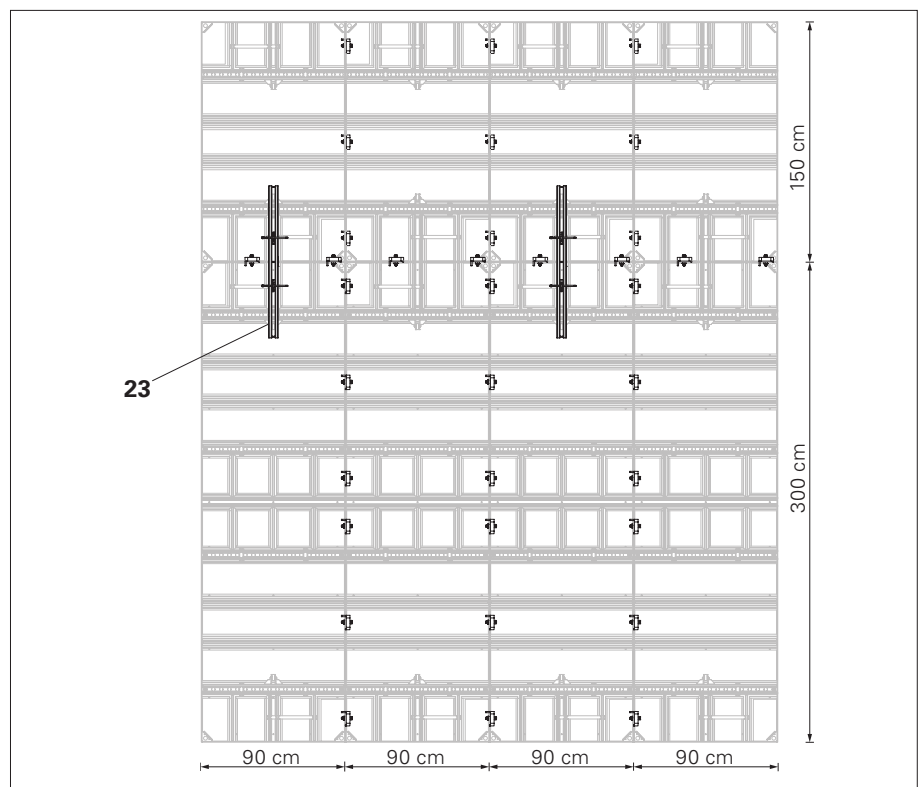

Fig. C6.04
Shown Height = 450 cm (Fig. C6.04)
When pre-assembly is not required for height extension, then the pattern can be followed as shown in Fig. C6.04 for vertical alignment using Compensation Waler HSA 95 (23).